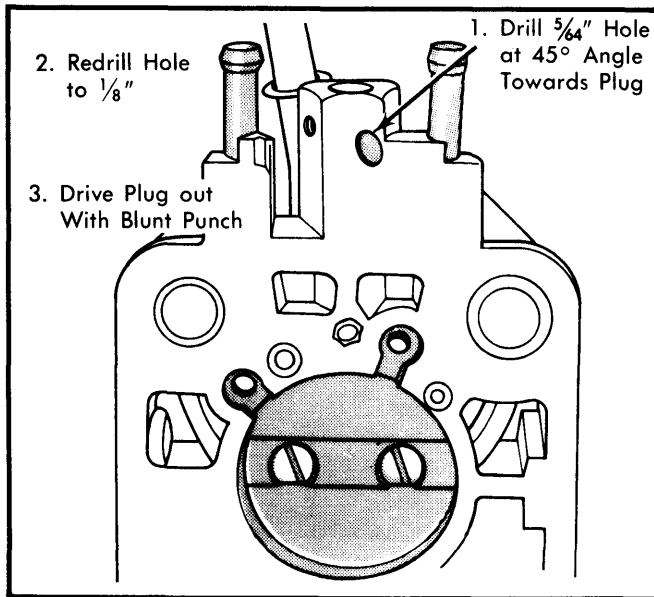

Fig. 5 Removing Idle Mixture Plug
6) Mount carburetor in padded vise with idle mixture screw facing up. Drill a 3/4 inch hole in casting surrounding idle mixture screw at a 45 degree angle towards idle mixture plug. Redrill hole to 1/8 inch. Drive plug out with a blunt punch. Count number of turns required to lightly seat mixture screw. Remove idle mixture screw and spring. See Fig. 5.